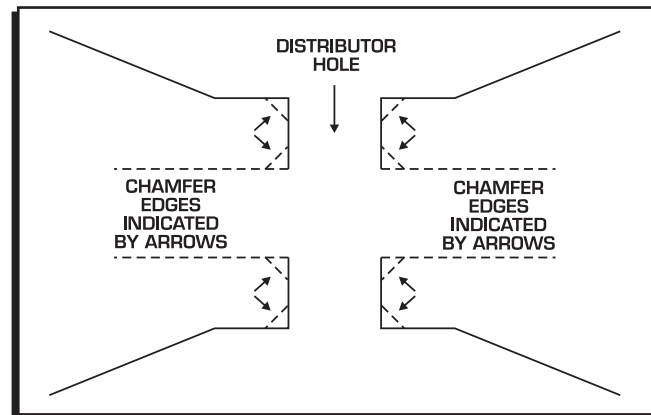

Figure 2 Modified Block to Accept the O-Ring Seals.
The MSD Billet Distributor features two O-ring grooves in the bottom lands of the housing to seal the oil gallery. These O-rings should only be installed if the block has been modified as shown in Figure 2.
**Note:** Do not use the O-rings unless the block has been modified as in Figure 2.